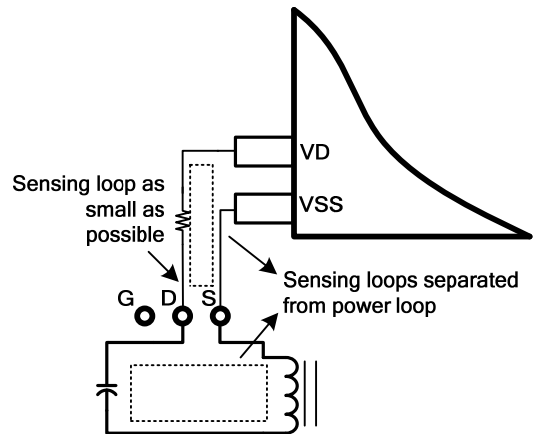
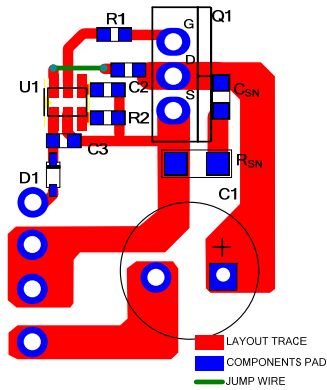

Figure 8: Voltage Sensing for VD/VSS
Figure 9: Layout Example with TO220 Package SR MOSFET
Efficient PCB layout is critical for stable operation. For best results, refer to Figure 8, Figure 9, Figure 10, and follow the guidelines below.
3. Keep the IC out of the power loop to prevent the sensing loop and power loop from interrupting each other (see Figure 8).
Figure 9 shows a layout example of a single layer with a through-hole transformer and a TO220 package SR MOSFET. RSN and CSN are the RC snubber network for the SR MOSFET. The sensing loop (VD and VSS to the SR MOSFET) is minimized and kept separate from the power loop. The VR decoupling capacitor (C2) is placed beside VR.